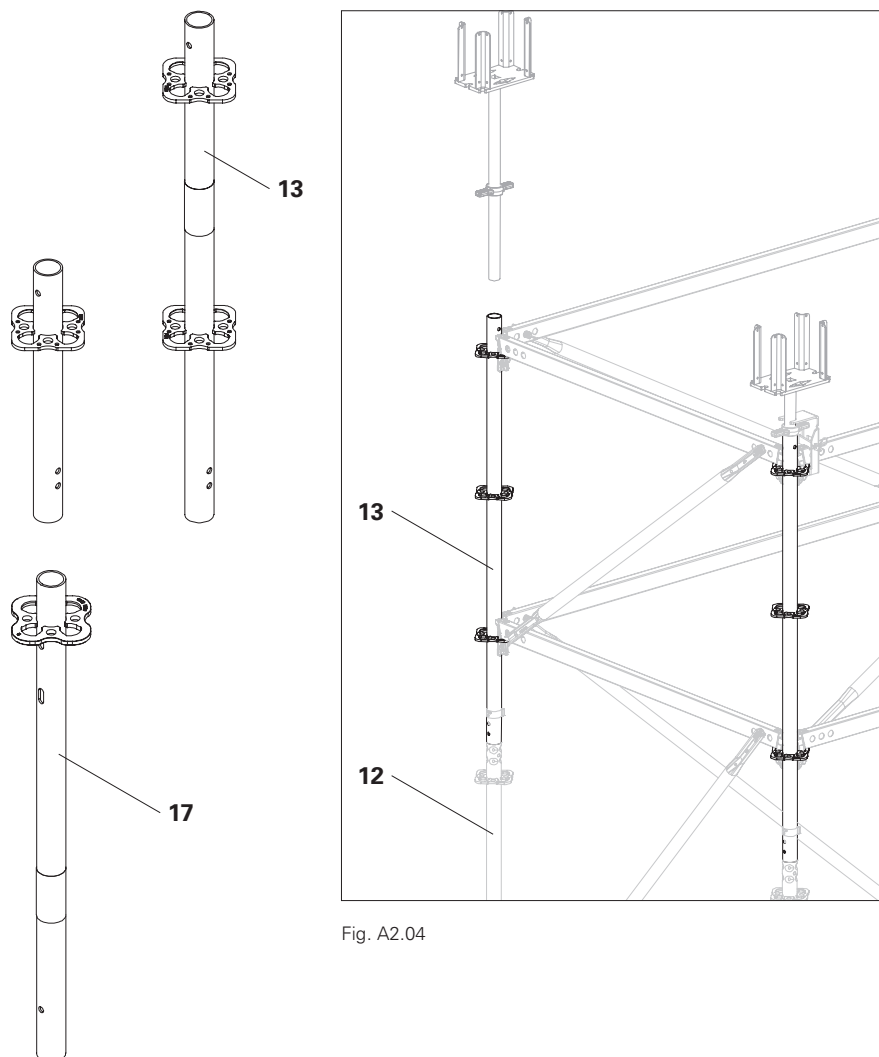

Fig. A2.04
2. Allineare i fori. (Fig. A2.04)